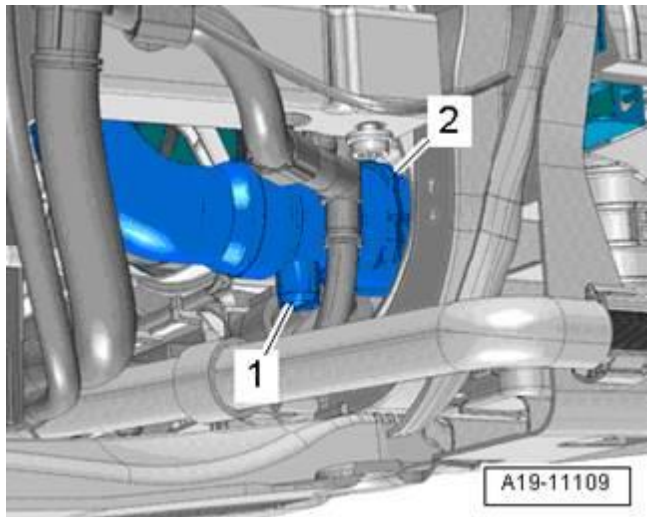

Figure 6. Drain the coolant.
6. Drain coolant when the engine is warm and the coolant thermostat is open according to the procedure in ElsaPro (Figure 6).